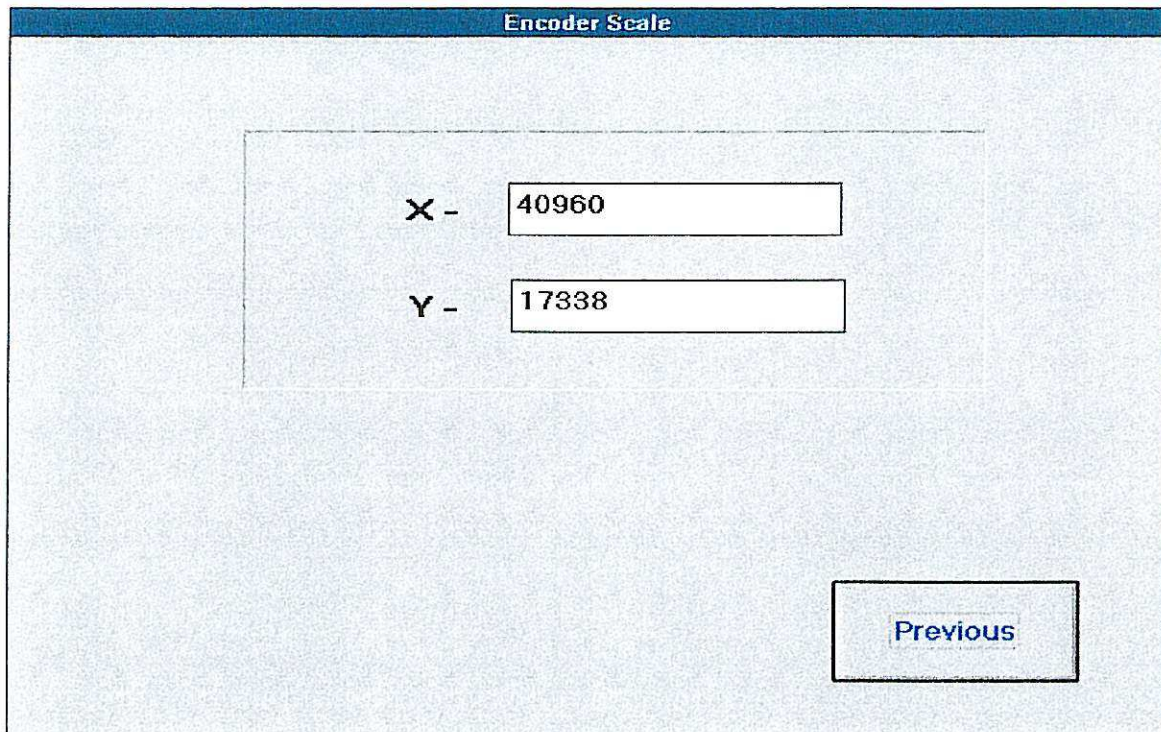

Figure 4.25
- F. To scale the X and Y-axis encoder, press the “Scale” key. A keyboard screen will appear. Enter the 4-character password and press the “O.K.” key. A scale screen will appear. See *Figure 4.25*.